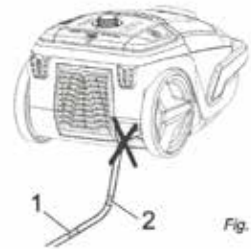

Fig. 10
2. Pull out the power cord until the yellow marking is visible (Fig. 10/1).
If the red marking shows (Fig. 10/2) retract the cord by pressing the retract button to rewind the cable (Fig. 11/2) back to the yellow mark. Otherwise the power cord could be damaged. There is danger of an electric shock.